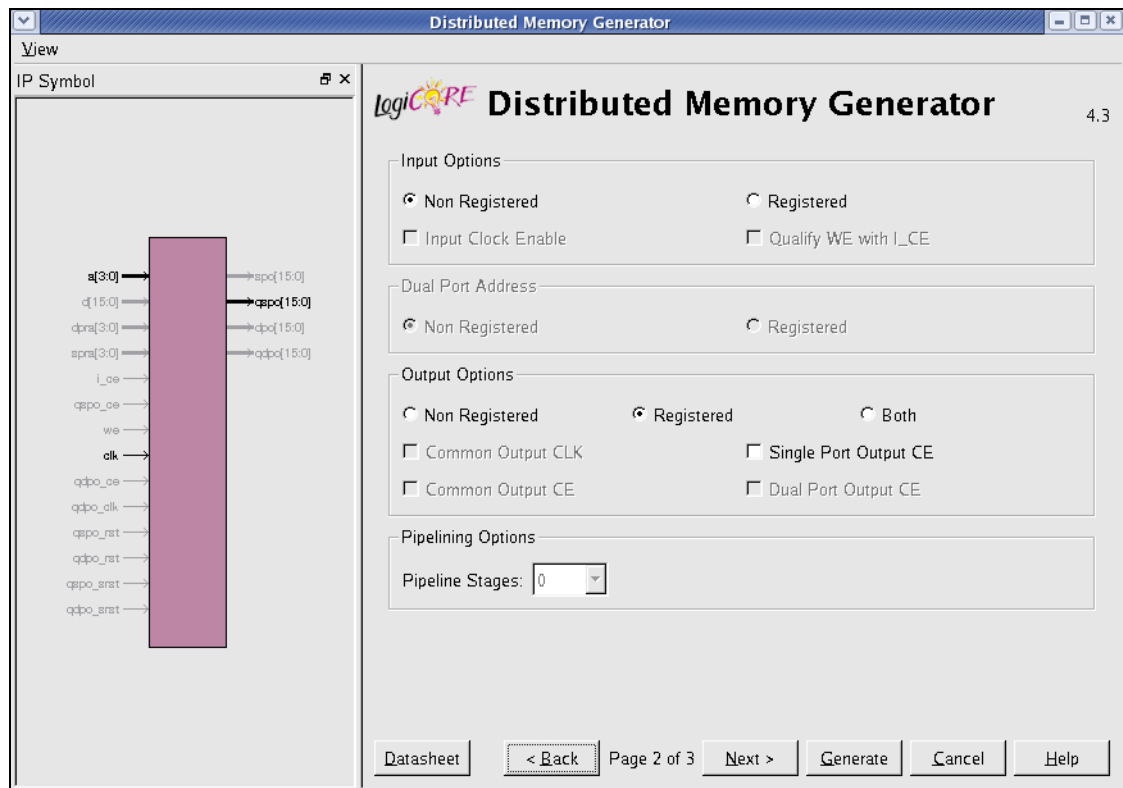

Figure 12: Distributed Memory Options Screen
- Input, Dual-Port, and Output Options Screen (Figure 12)